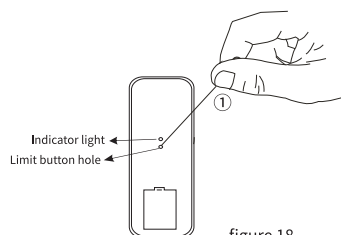

figure 18
- Use a small paper clip or small round needle to insert the electronic positioning setting key hole of the elevator on the back of the remote control (as shown in Figure 18), press the electronic positioning setting key of the elevator, the red and blue LEDs will light up, and then press the elevator Rack down button, at this time, after the lifting frame is lowered to a suitable position, press the stop button of the remote control as shown in Figure 19), and then press the electronic positioning setting button of the lifting button, the red and blue light-emitting diodes are off, and the lifting frame moves up and down. The electronic lower limit setting of the lifting frame is completed.